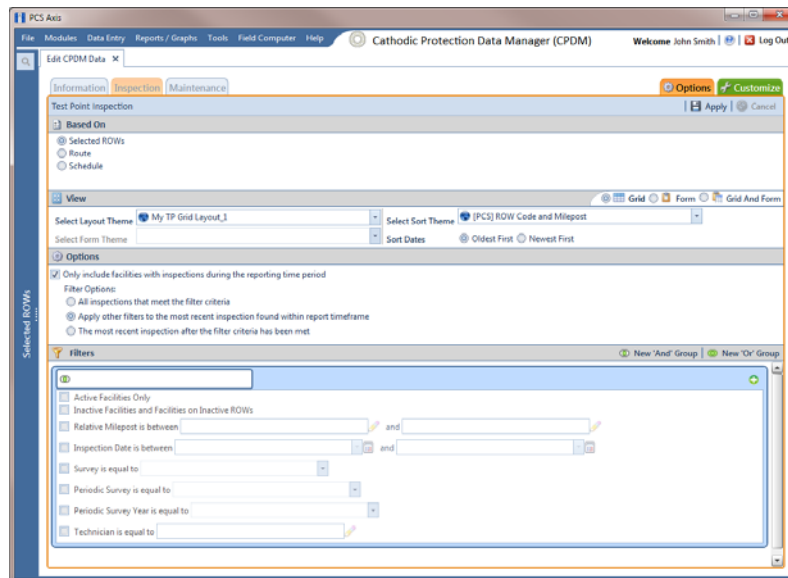

Figure 8-29. Options
- 7 Click  **Save**, then click the **Options** tab  **Options** to open the options page (Figure 8-29, page 378).